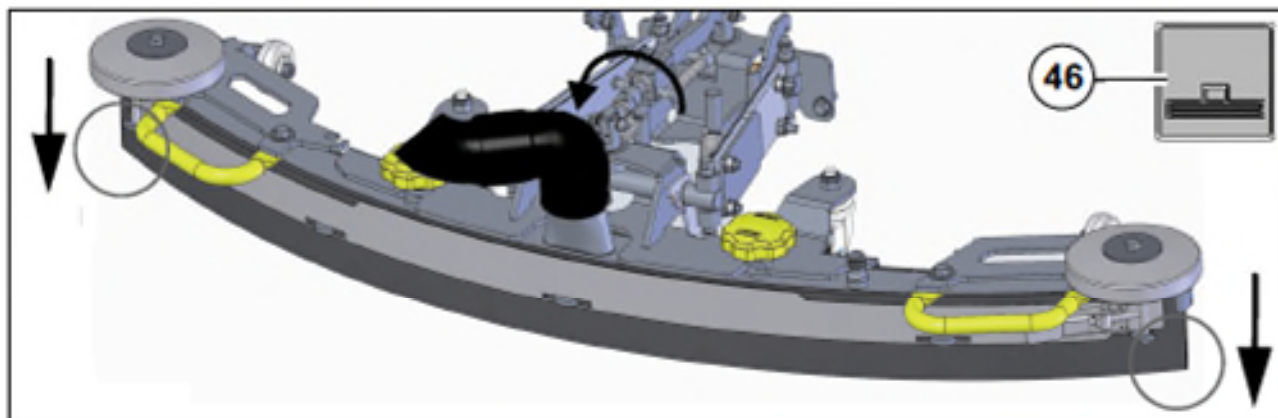

Figure 2b
1. Place the machine on a level surface and lower the squeegee using the squeegee key figure 2b -46.
The distance between the sealing strip and the ground decreases at the ends figure 2b.